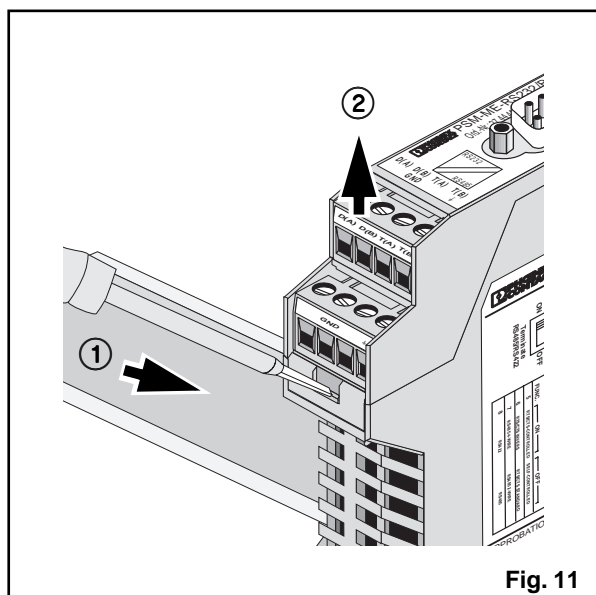

Fig. 11
For configuration, release the top of the housing on both sides (1). Pull the p.c.b. out of the housing as far as possible (2) (fig. 11).